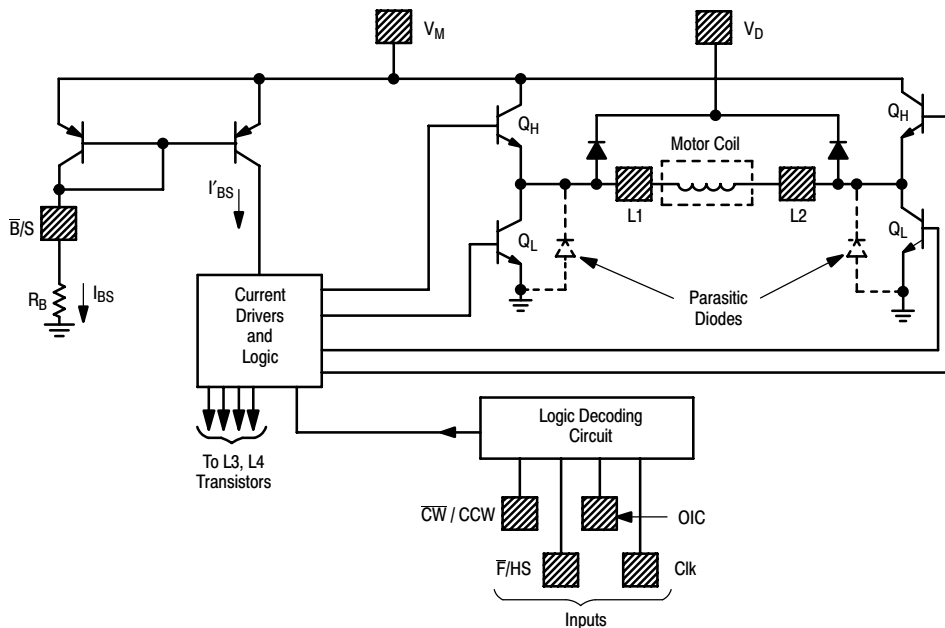
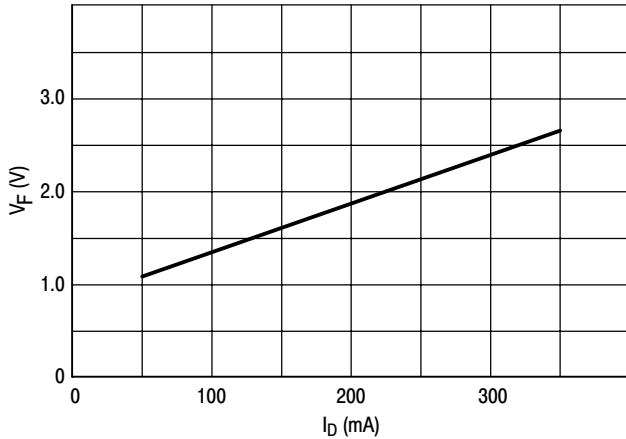
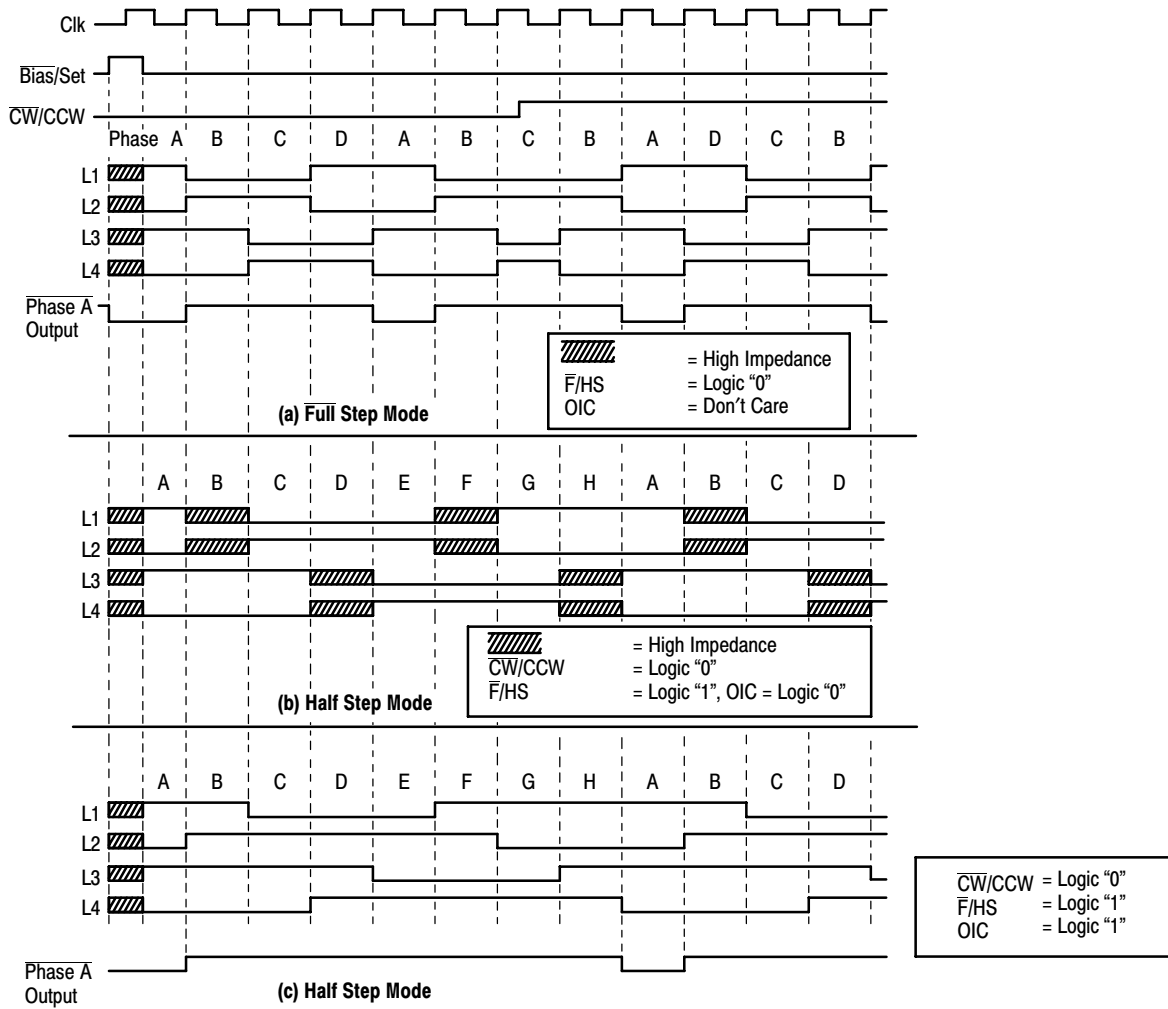
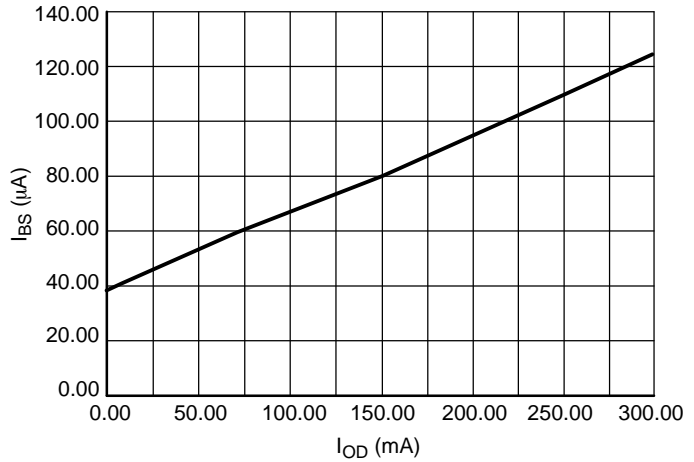

Figure 5. Output Stages
Figure 6. Clamp Diode Characteristics
Figure 7. Output Sequence
Figure 11. Bias/Set Current – Output Drive Current
The outputs (L1–L4) are high current outputs (see Figure 5), which when connected to a two-phase motor, provide two full-bridge configurations (L3 and L4 are not shown in Figure 5). The polarities applied to the motor coils depend on which transistor (Q_H or Q_L) of each output is on, which in turn depends on the inputs and the decoding circuitry.
are to be in a high impedance state, both transistors (Q_H and Q_L of Figure 5) of each output are off.
This pin allows for provision of a current path for the motor coil current during switching, in order to suppress back-EMF voltage spikes. V_D is normally connected to V_M (Pin 16) through a diode (zener or regular), a resistor, or directly. The peaks instantaneous voltage at the outputs must not exceed V_M by more than 6.0 V. The voltage drop across the internal clamping diodes must be included in this portion of the design (see Figure 6). Note the parasitic diodes (Figure 5) across each Q_L of each output provide for a complete circuit path for the switched current.
When this input is at a Logic “0” (< 0.8 V), the outputs change a full step with each clock cycle, with the sequence direction depending on the \overline{CW}/CCW input. There are four steps ($\overline{\text{Phase A}}, \overline{\text{B}}, \overline{\text{C}}, \overline{\text{D}}$) for each complete cycle of the sequencing logic. Current flows through both motor coils during each step, as shown in Figure 7.
When taken to a Logic “1” (>2.0 V), the outputs change a half step with each clock cycle, with the sequence direction depending on the \overline{CW}/CCW input. Eight steps ($\overline{\text{Phase A}}$ to $\overline{\text{H}}$) result for each complete cycle of the sequencing logic. $\overline{\text{Phase A}}, \overline{\text{C}}, \overline{\text{E}}$ and $\overline{\text{G}}$ correspond (in polarity) to $\overline{\text{Phase A}}, \overline{\text{B}}, \overline{\text{C}},$ and $\overline{\text{D}}$, respectively, of the full step sequence. $\overline{\text{Phase B}}, \overline{\text{D}}, \overline{\text{F}}$ and $\overline{\text{H}}$ provide current to one motor coil, while de-energizing the other coil. The condition of the outputs of the de-energized coil depends on the OIC input, see Figure 7 timing diagram.
The output impedance control input determines the output impedance to the de-energized coil when operating in the half-step mode. When the outputs are in $\overline{\text{Phase B}}, \overline{\text{D}}, \overline{\text{F}}$ or $\overline{\text{H}}$ (Figure 7) and this input is at a Logic “0” (<0.8 V), the two outputs to the de-energized coil are in a high impedance condition – Q_L and Q_H of both outputs (Figure 5) are off. When this input is at a Logic “1” (>2.0 V), a low impedance output is provided to the de-energized coil as both outputs have Q_H on (Q_L off). To complete the low impedance path requires connecting V_D to V_M as described elsewhere in this data sheet.
a) The maximum output sink current is determined by the base drive current supplied to the lower transistors (Q_Ls of Figure 5) of each output, which in turn, is a function of I_{BS}. The appropriate value of I_{BS} can be approximated using Figure 11.
For example, assume an application where $V_M = 12\text{ V}$, the motor requires 200 mA/coil, operating at room temperature with no heatsink on the IC. From Figure 11, I_{BS} is determined to be 95 μA .